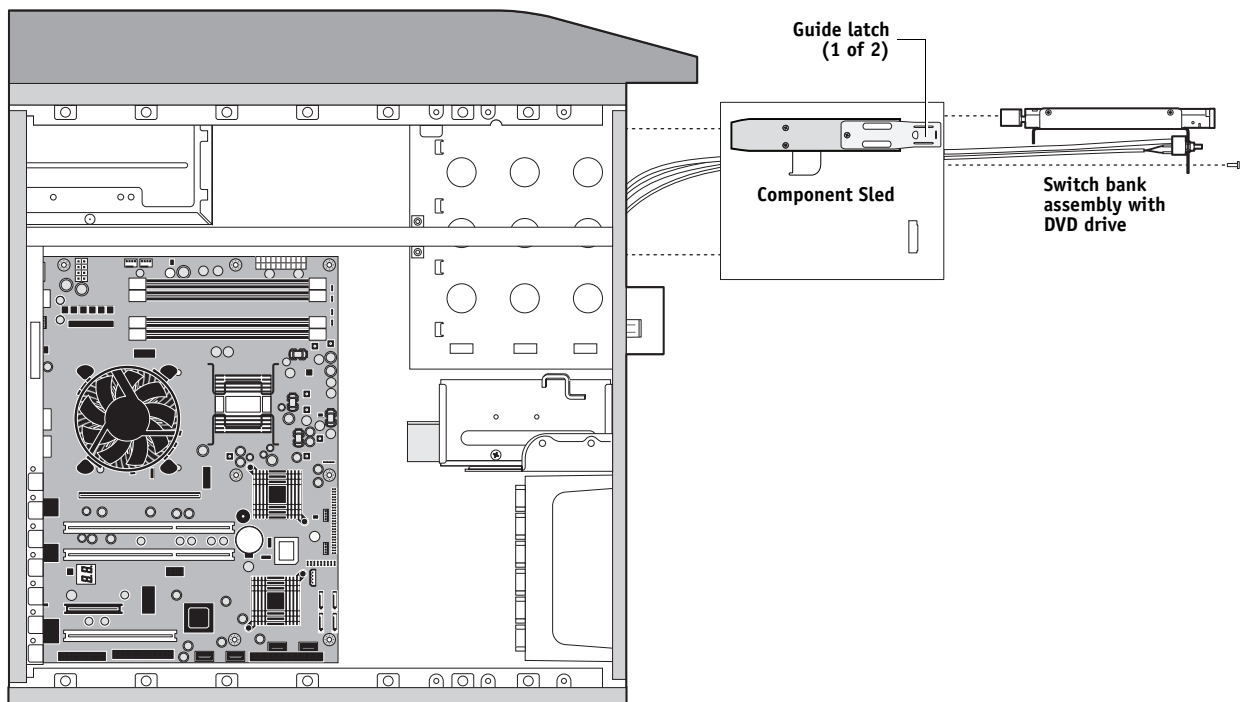

FIGURE 33: Component Sled with switch bank assembly
4. Unharness the cables from the cable clamp(s) and tie-wraps inside the chassis.**5. Remove the Component Sled from the chassis (see Figure 33 on page 94).**